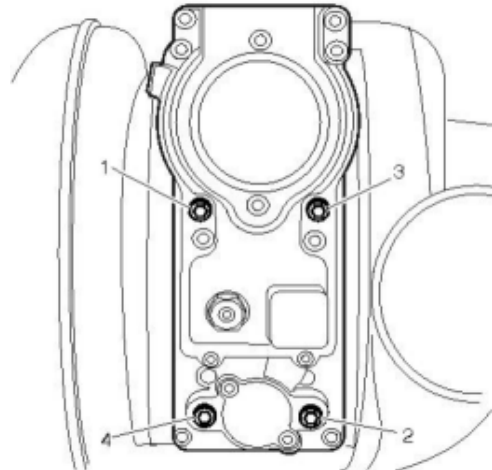

FIGURE 16
21. Carefully align the actuator with the turbocharger and install it into position. Hold the actuator in place and hand tighten the two screws. Install the two remaining new screws and finger-tighten. Use the following steps to tighten the screws (FIGURE 16).